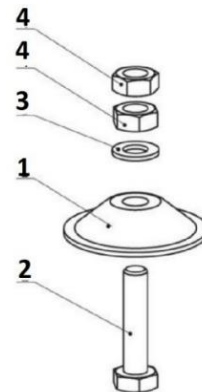

Fig. 2d;
*If the adjustment feet are delivered in separate parts you can assemble them as follow (fig. 2d):